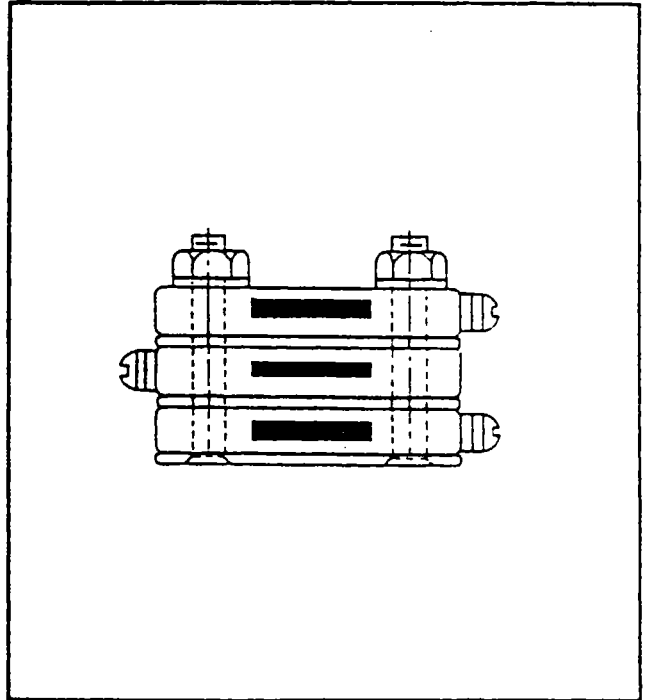
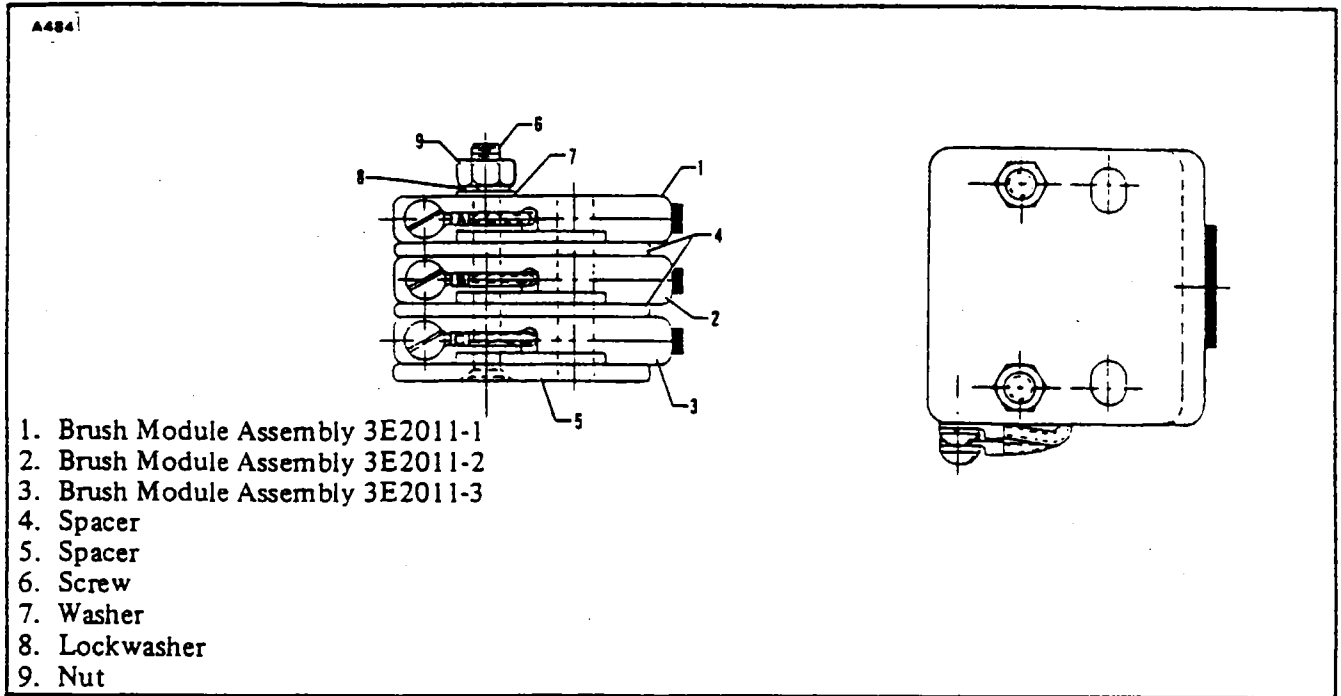

Figure 14-10a. Alternate Module Stacking Arrangement.
Figure 14-10b. Modular Brush Assembly 3E2042-1 (2 Bladed Prop)
- c. Restack modules and spacers as shown in Figure 14-10b. If there is interference between adjacent ring terminals, reorient center module as shown in Figure 14-10a.